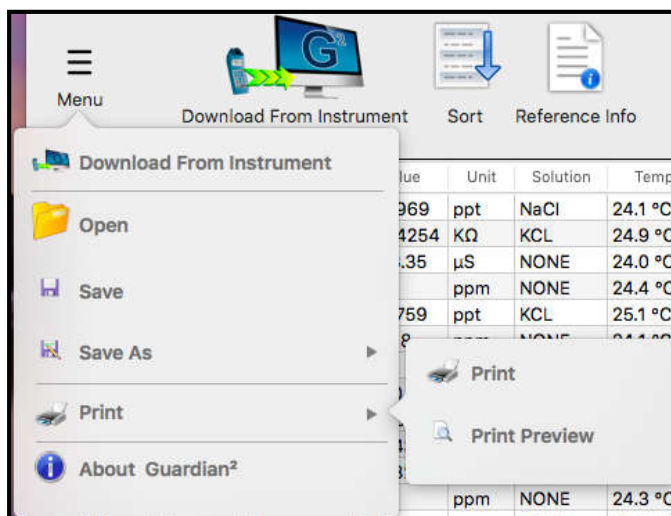

Figure 39
- 1) Open the print dialogue box (Figure 39):